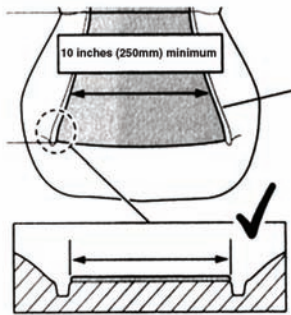

Figure 3
**NOTE:** The width must be at least 10 inches (250 mm). The heating pad CANNOT contact the side seams of the seat. If it does make contact, the seat heater cannot be installed. Refer to Figure 3.